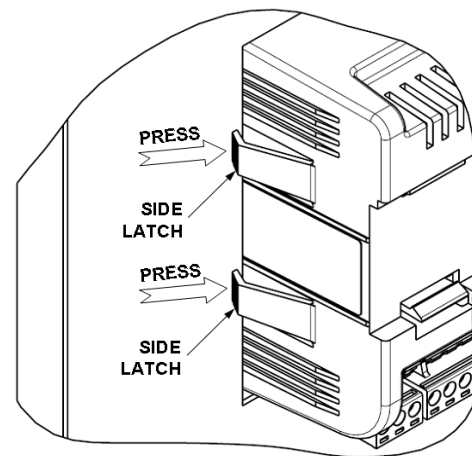

Figure 4: The Remove Sketch Map
1. Press the four side latches on the back of the panel inward with fingers, and push the controller forward quickly to make the latches separate from the panel. (see Figure 4)